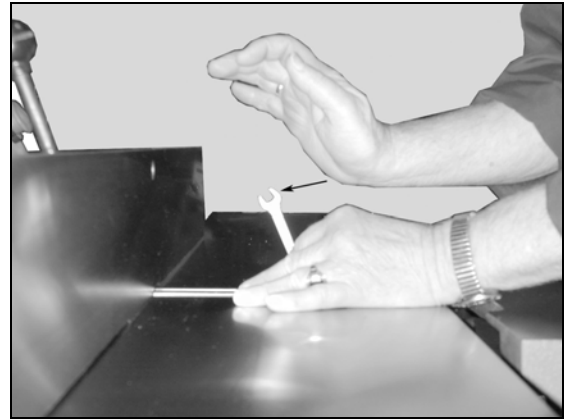

Figure 10
4. Using a 8mm wrench on the knife lock bolt, release the pressure on the knife by turning the bolt into the cutterhead as shown in Figure 10. To prevent injury, hold the wrench with one hand while tapping the top of the wrench with the other hand as shown. Do this for all six bolts.